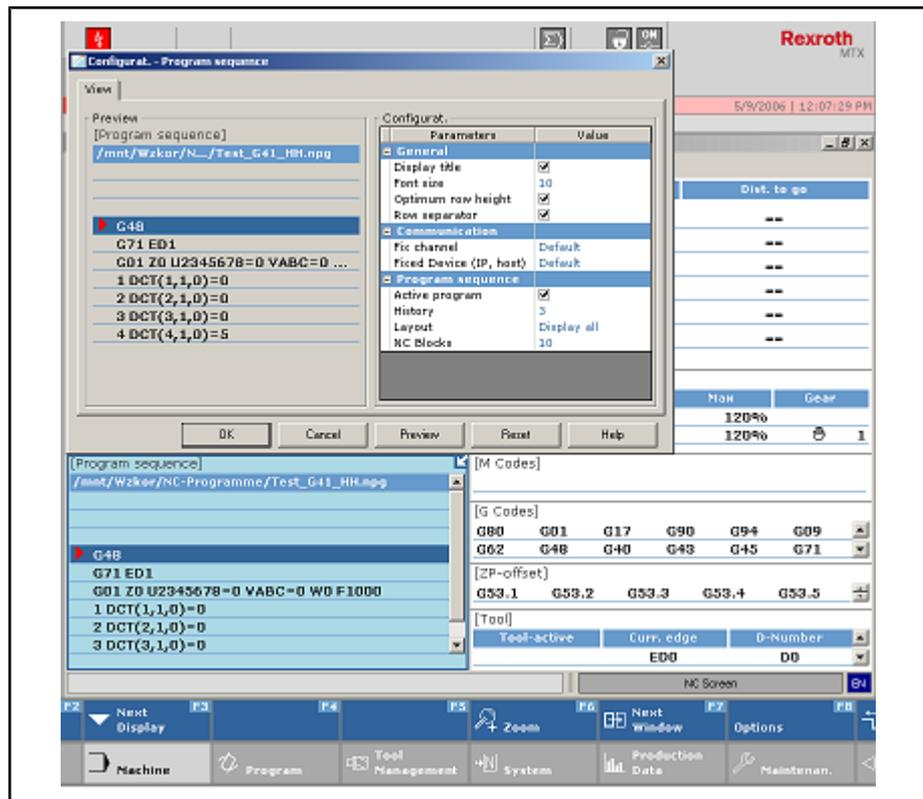

Fig.7-52: *Displaying the NC program section that is currently being processed*
8. For example, click on the entry in the 1st column for variant 1. In the example in fig. 7-52 "Displaying the NC program section that is currently being processed" on page 172, "Program" is shown in this column. An arrow appears next to the word "Program".
2. Display the NC program section that is currently being processed by clicking the mouse or by pressing (several times, if desired) <F7> (Next window) (fig. 7-52 "Displaying the NC program section that is currently being processed" on page 172).
- The "Configuration - Program Section" window opens (fig. 7-52 "Displaying the NC program section that is currently being processed" on page 172).
- Select the font size for the displayed NC program by double-clicking the currently set value (the value 10 in the example in fig. 7-52 "Displaying the NC program section that is currently being processed" on page 172).
The "Configuration - Program Information" window opens (fig. 7-52 "Displaying the NC program section that is currently being processed" on page 172).